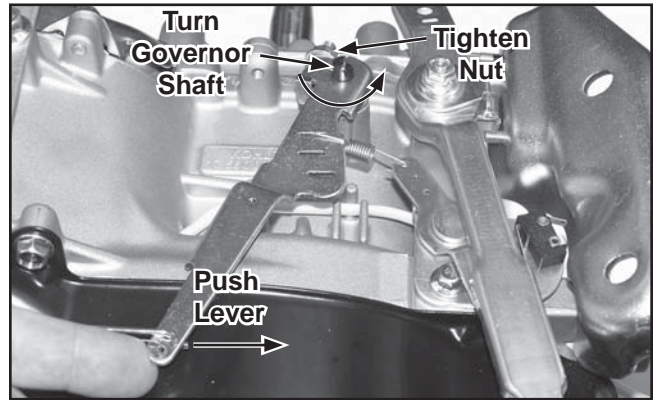

Figure 11-76. Governor Lever Adjustment.
3. Push the governor lever in the direction indicated in Figure 11-76 and hold in this position. Turn the governor shaft counterclockwise until it stops. Tighten the hex flange nut on the governor lever clamp bolt to lock the lever on the shaft. Torque the nut to 12 N·m (106 in. lb.).